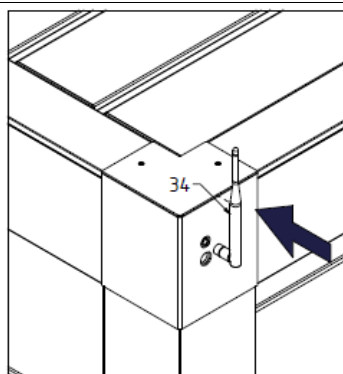

Fig. 32
37. After tightening the corner grilles, mount the control unit antenna (34) by screwing it onto the thread where the control unit is mounted - fig. 32. The antenna has a joint that allows it to be bent at 90 degrees.